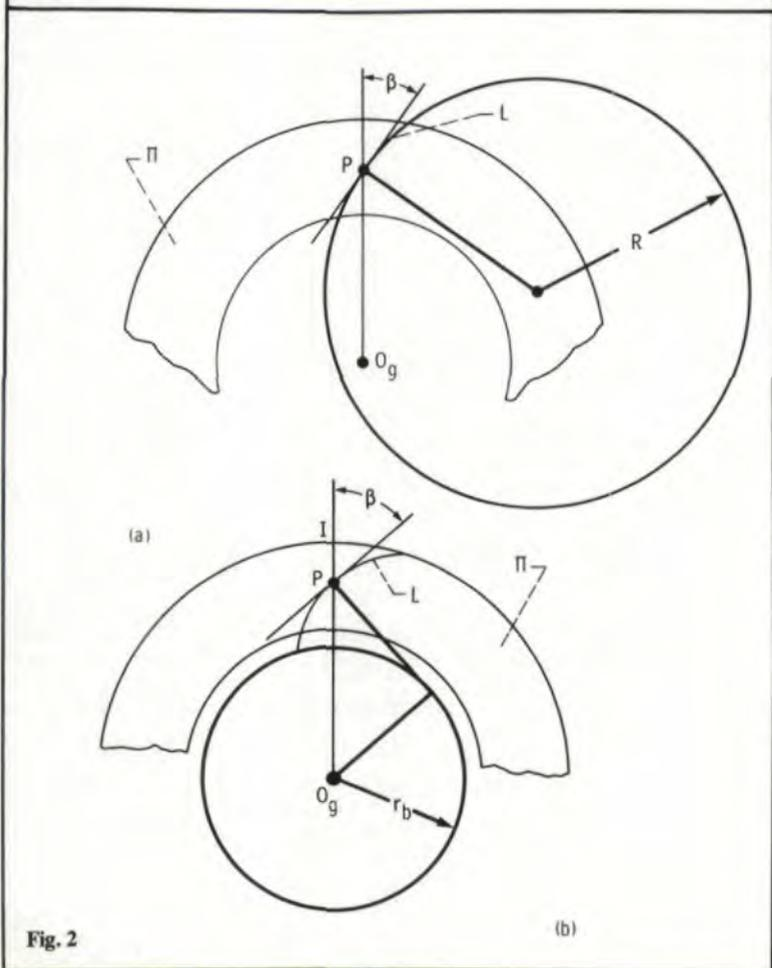
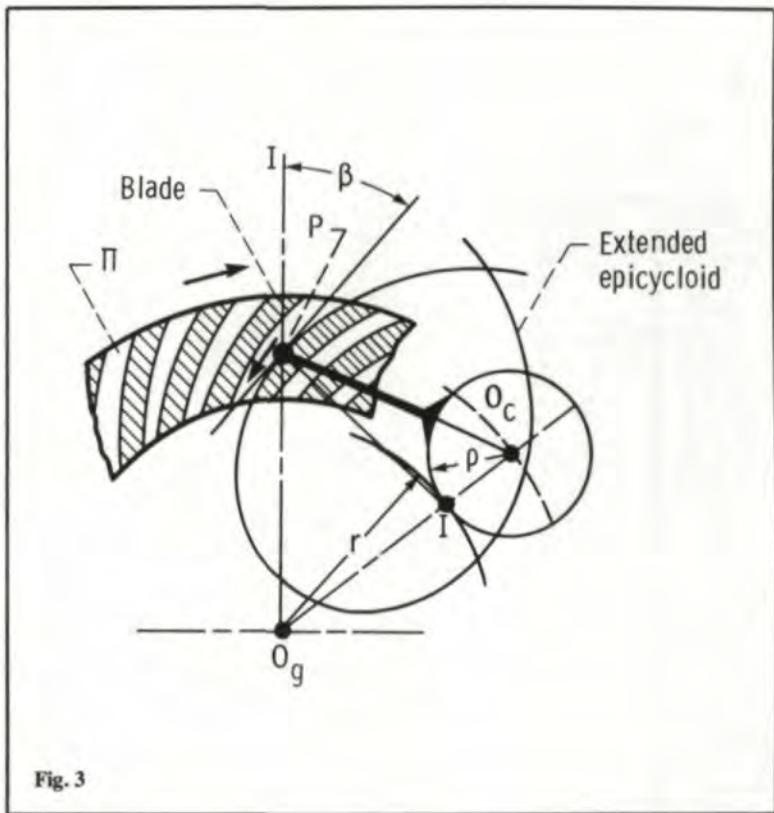

Fig. 2
Fig. 3
(3) The Cyclo-Palloid System of Klingelnberg and Oerlikon System (Fig. 3) where the longitudinal shape is an extended epicycloid, traced out by point  $P$  of the finishing blade of the head cutter. The blade and circle of radius  $q$  are rigidly connected and represent a rigid body. The circle of radius  $q$  rolls over the gear circle of radius  $r$ . Thus these circles are centrodes of the head-cutter and of the generating gear. The head cutter rotates about  $O_c$  and the generating gear rotates about  $O_g$ . Unlike the generation of Gleason's gearing, the rotations of the head-cutter and the generating gear in the case of the Cyclo-Palloid System are related: point  $I$  is the in-
Henceforth, we will designate the direction of the tangent to the longitudinal shape at point  $P$  by  $\beta$ . Point  $P$  is the point of intersection of the instantaneous axis of rotation  $O_g I$  and the shape (Figs. 2 and 3). The longitudinal shape (the spiral) can be right-handed or left-handed, similar to the right-handed and left-handed helical gears. Fig. 3 shows right-handed spirals.